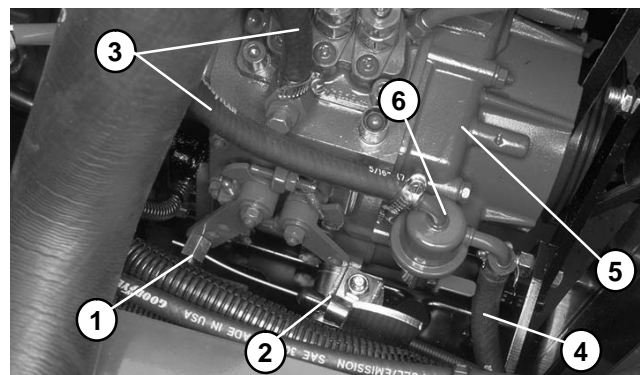

Figure 32
9. Disconnect throttle cable from the cable clamp and swivel on the speed control lever. Disconnect fuel hoses from the water/fuel separator at the injector and fuel pumps. Disconnect fuel hose from the fuel tank at the fuel pump (Fig. 32).
7. Connect throttle cable to the cable clamp and swivel on the speed control lever. Connect both fuel hoses from the water/fuel separator to the injector and fuel pumps. Connect fuel hose from the fuel tank to the fuel pump (Fig. 32).